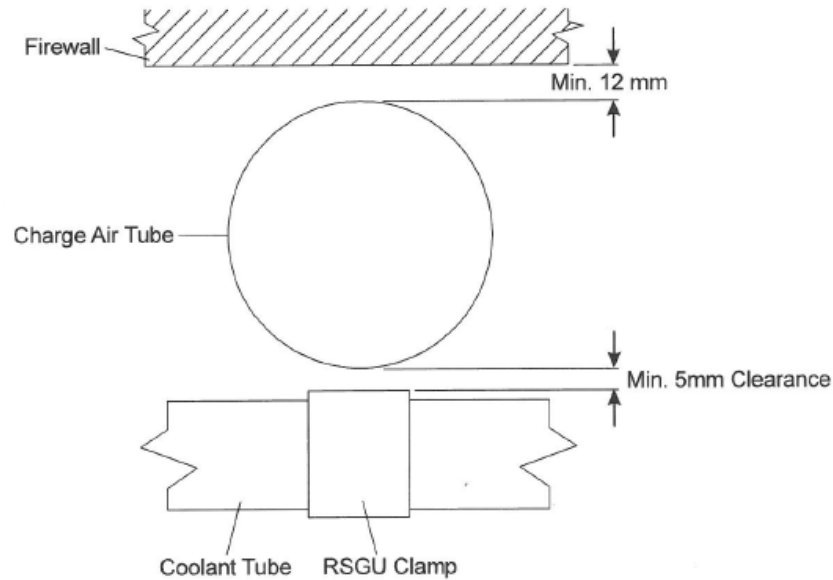

Figure 7: Clearance between charged air tube to firewall and coolant tube
- Make sure that the charge air tube has at **least** 12 mm clearance to the firewall and at **least** 5mm clearance to the coolant tube aft of the engine (refer to Figure 7 and 8 below).